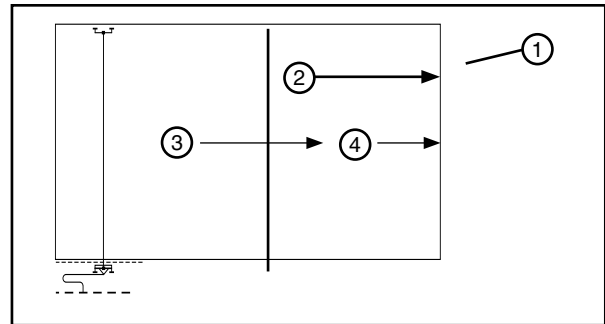

Figure 41-1 1. Field 2. Direction of Travel 3. Wet Deep 4. Wet Shallow
1. The percentage timer is set at the desired application rate, the system is started at one end of the field, and run wet (irrigating) to the middle of the field. See Figure 41-1.
2. At the middle of the field the percentage timer is set to 100% and the system continues to run wet to the other end of the field. See Figure 41-1.